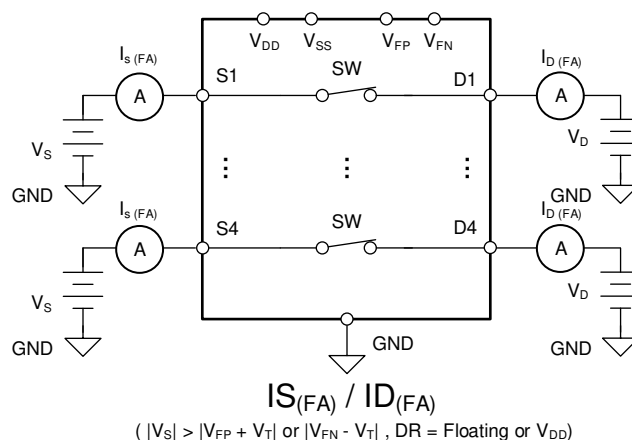
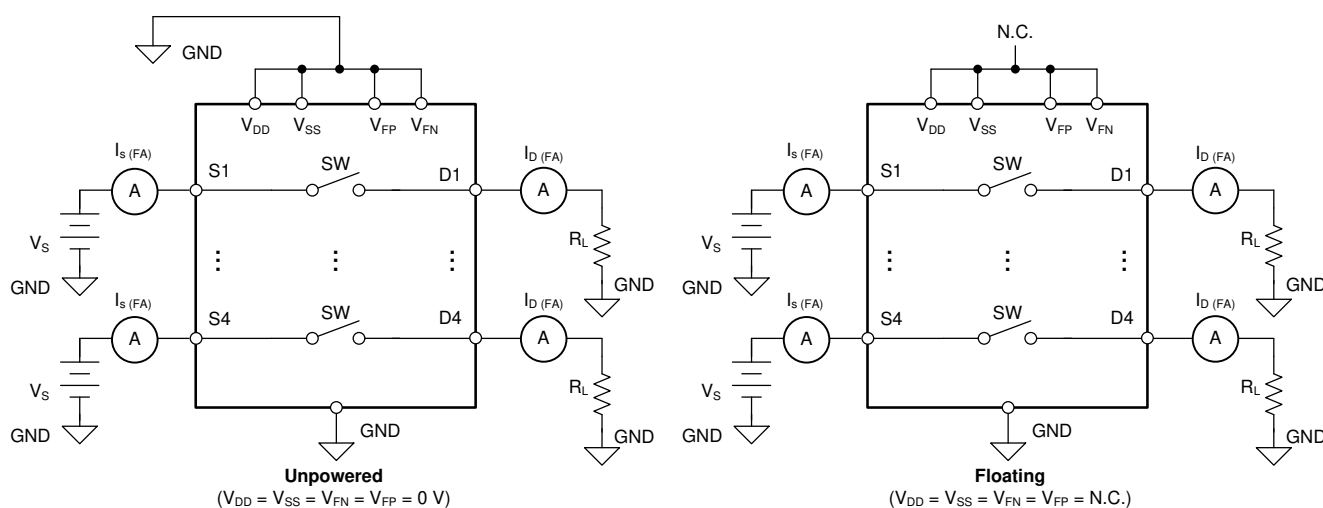

图 7-3. Measurement Setup for Input and Output Leakage Current Under Overvoltage Fault with Normal Supplies
图 7-4. Measurement Setup for Input and Output Leakage Current Under Overvoltage Fault with Unpowered or Floating Supplies
If any of the source pin voltage goes above the fault supplies ( $V_{FP}$  or  $V_{FN}$ ) by one threshold voltage ( $V_T$ ), the TMUX7462F's overvoltage protection feature is triggered to turn off the switch under fault, keeping the fault channel in the high-impedance state.  $I_{S(FA)}$  and  $I_{D(FA)}$  denotes the input and output leakage current under overvoltage fault conditions, respectively. The supply (or supplies) can either be in normal operating condition (图 7-3) or abnormal operating condition (图 7-4) when the overvoltage fault occurs. The supply (or supplies) can either be unpowered ( $V_{DD} = V_{SS} = V_{FN} = V_{FP} = 0$  V), floating ( $V_{DD} = V_{SS} = V_{FN} = V_{FP} = \text{No Connection}$ ), or at any level that is below the undervoltage (UV) threshold during abnormal operating conditions.